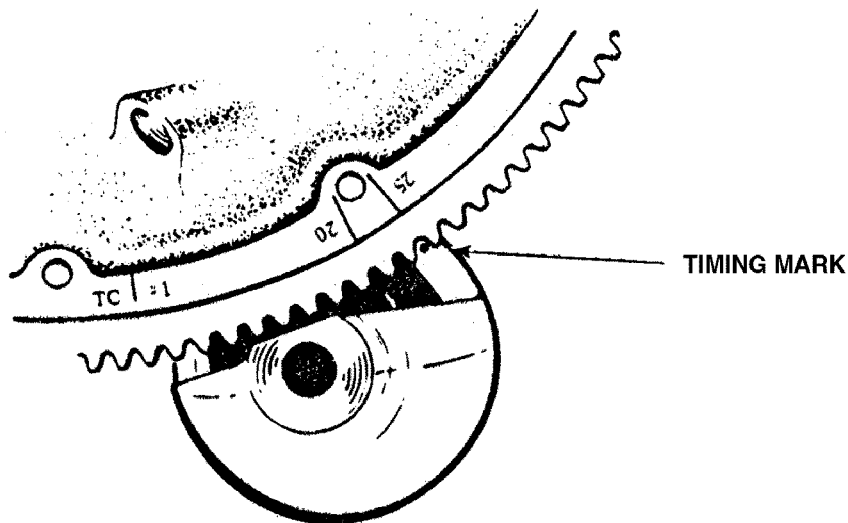

Figure 7-15. Engine Timing Marks.
- b. Remove the top spark plug from No. one cylinder. Place the thumb of one hand over the spark plug hole and rotate the crankshaft in direction of normal rotation until the compression stroke is reached. The compression stroke is indicated by a positive pressure inside the cylinder tending to lift the thumb off the spark plug hole. In this position both valves of No. one cylinder are closed. Turn the crankshaft opposite to its normal direction of rotation until it is approximately 35 degrees BTC on the compression stroke of No. one cylinder. Rotate the crankshaft in its normal direction of rotation until the 25 degrees mark on the back of the starter gear and the crankcase parting surface are aligned, or the marks on the front of the starter ring gear and the drilled hole in the starter housing align. (Refer to Figure 7-15)